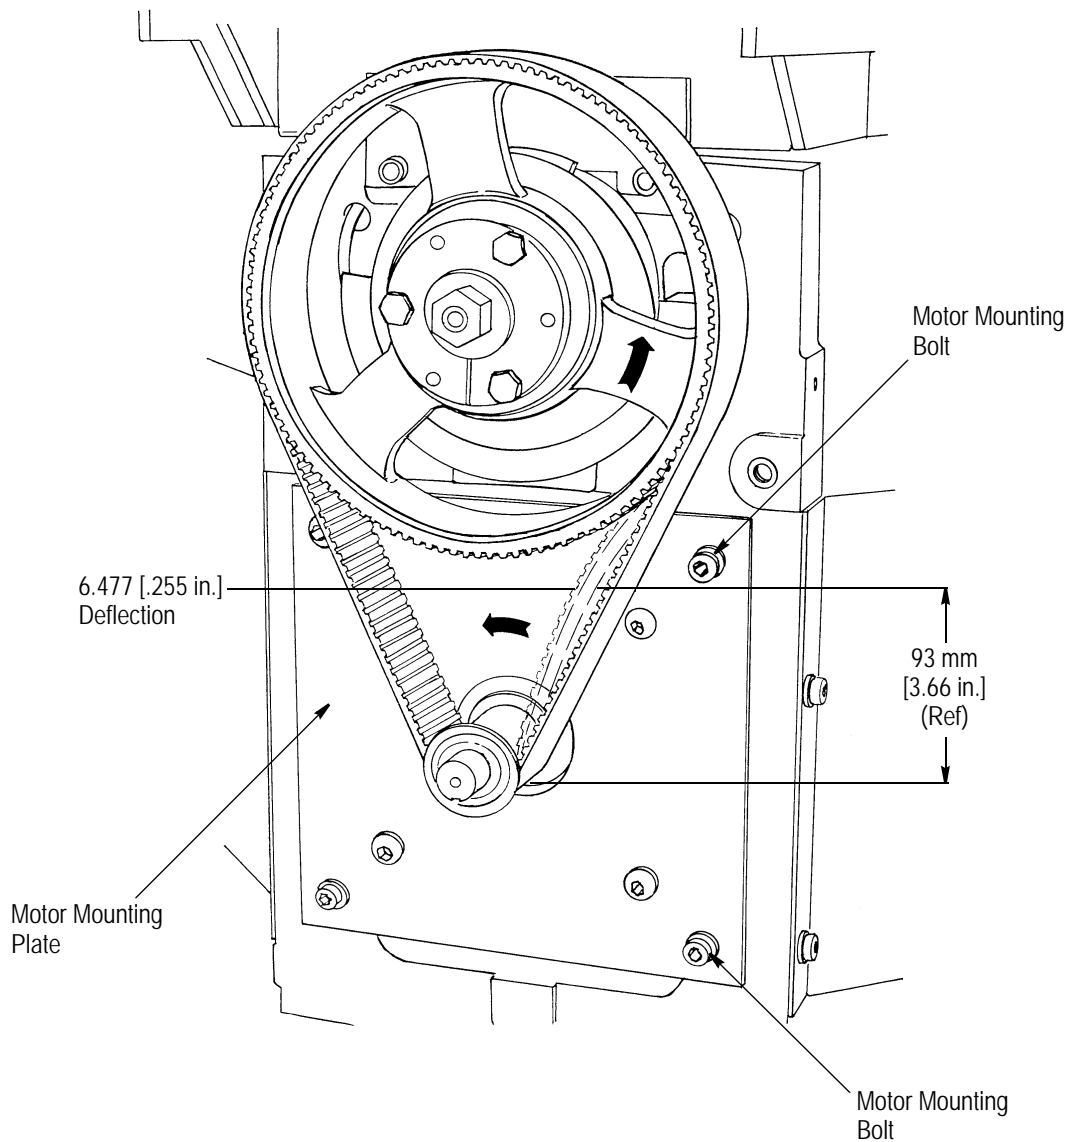

Figure 18
2. Adjust the tension for 6.477-mm [.255-in.] deflection with applied force of 66.7 N [15 lb-force] at a point of 93 mm [3.66 in.] from the bottom of the belt as it clears the bottom of the motor pulley. See Figure 18.